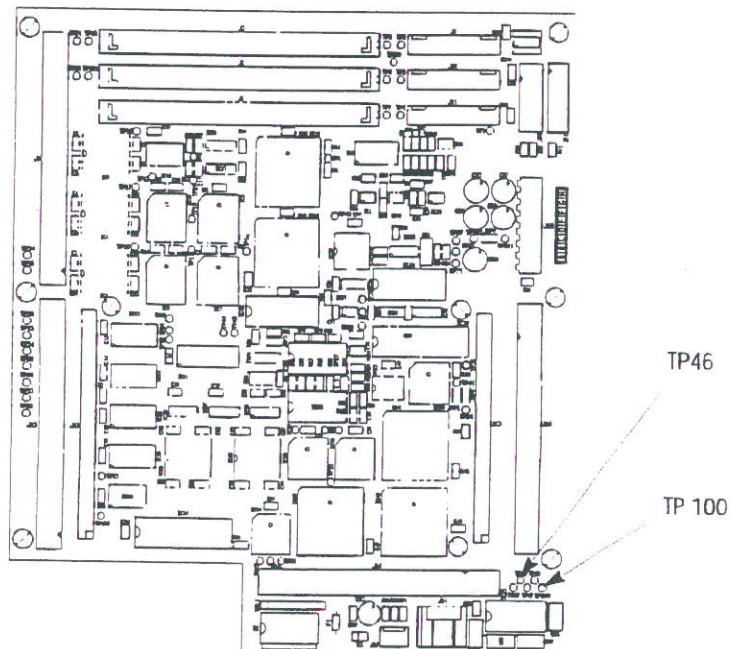

Fig. 2
- 15 • Connect a voltmeter to TP46 and TP100 (ground) on the control board (fig. 2), select **2**, (**Adjust PMT gain**) and then **T**, (**Transmission**) and adjust the gain value to approximately 3 volts. Select **q**, (**done**) when complete.